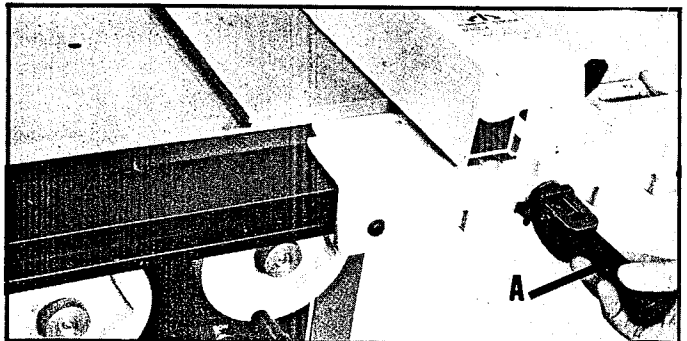

Fig. 67
To move the fence along the guide rail, lift up clamp lever (A), as shown in Fig. 67, slide fence to the desired position on the rail, and push down on clamp lever (A) to lock fence in place.